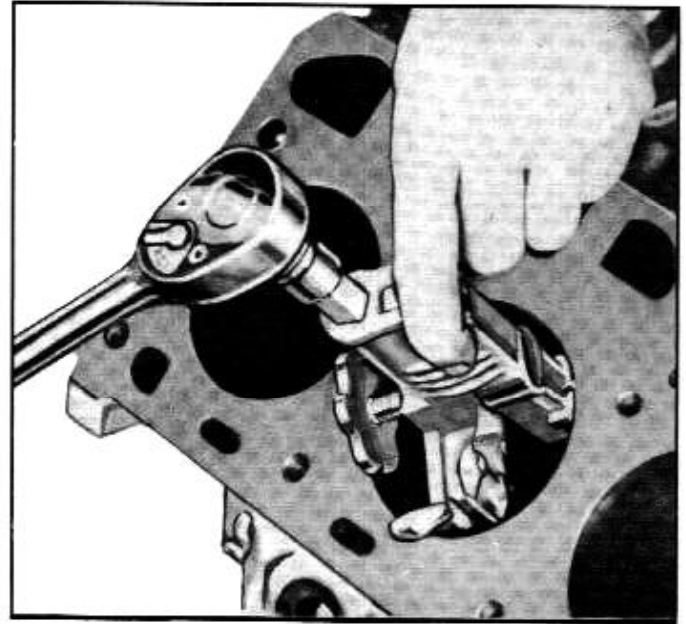

Fig. 6C-74—Removing Cylinder Ridge—Typical
- b. Remove cylinder ridge using Tool 6011-A or equivalent. See figure 6C-74.